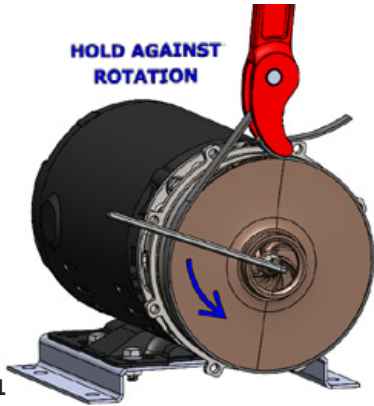

Figure 1
7. Remove motor shaft end cap at the back of motor (opposite the pump end). Insert a screwdriver in slot of motor shaft end. While holding shaft against rotation, unscrew the cap screw using a 3/16-inch Allen wrench or Allen socket. (Figure 1)